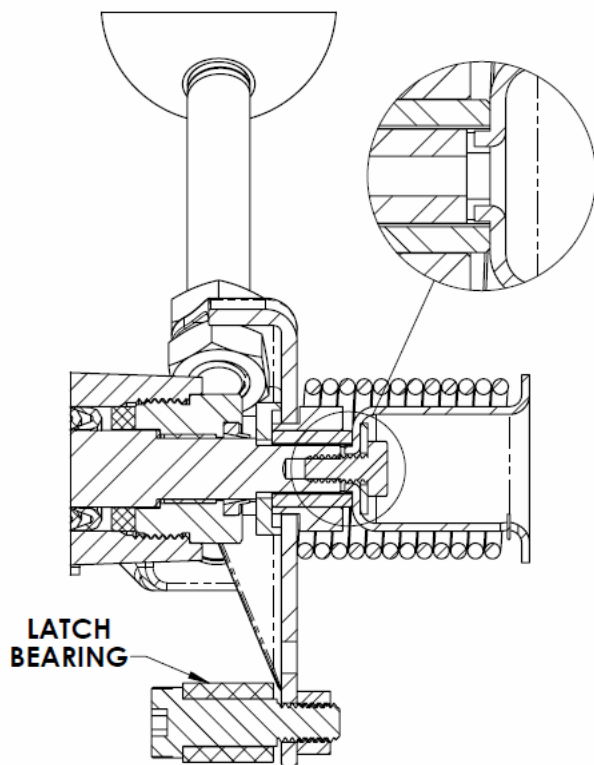
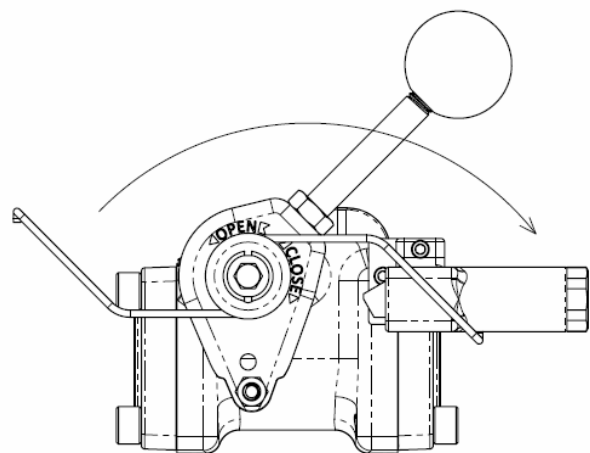

FIGURE 1: INSTALLATION OF SPRING RETAINER
FIGURE 2: INSTALLATION OF HANDLE SPRING
13. With Clapper closed, Install Handle Assembly [22] onto Stem [5] with Latch Bearing facing down (Figure1).
16. Install Spring Retainer [13] into Thermal Link [17] as shown (Figure 1) with Handle Spring [14] arm oriented as shown (Figure 2).
18. Wind Handle Spring [14] arm clockwise and attach to Latch Body (Figure 2).